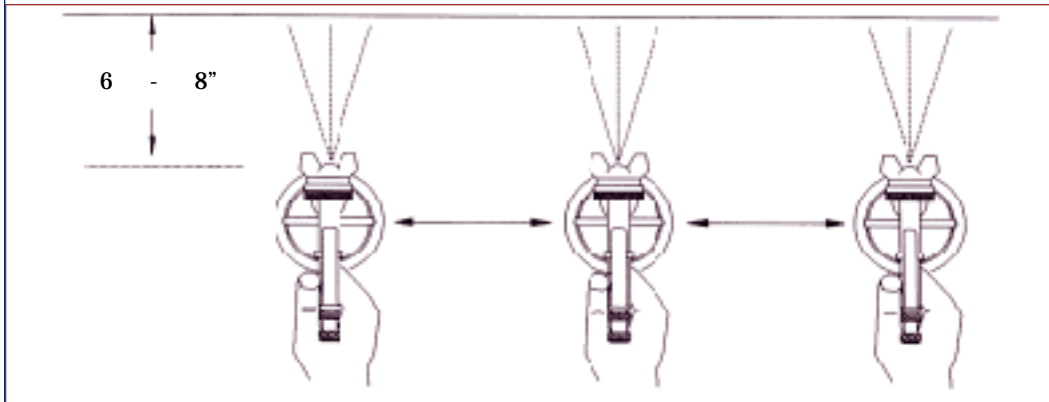
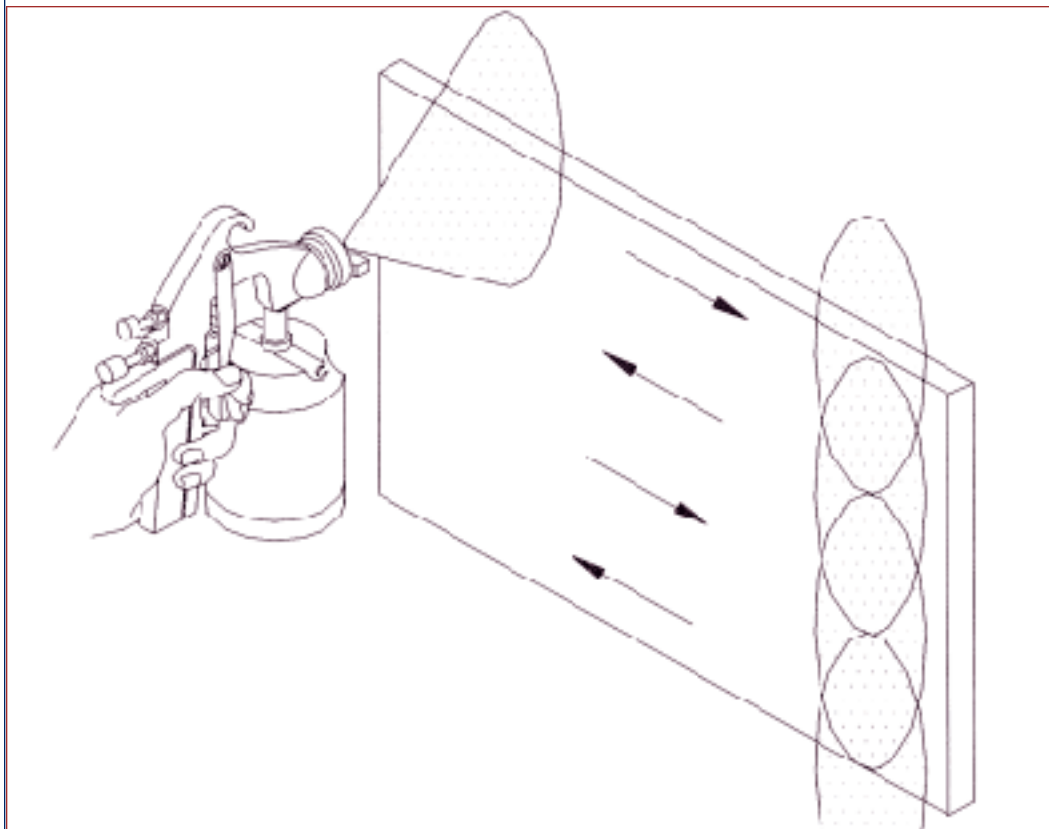

Figure 7: Proper Spray Distance and Technique
Figure 8: 50% Overlap Technique
F. The spray gun should be held at a distance of 6 - 8" from the substrate, and this distance should be maintained with each stroke (Figure 7). In general, the painter should use a 50 percent overlap for each pass, feathering the trigger at the beginning and end of each stroke (Figure 8). This technique may need to be altered slightly when applying high-metallic, high-solids basecoats and for some three stage systems to avoid striping. The speed of each pass should be a comfortable pace for the technician while maintaining a full wet coat, free of sags or runs.